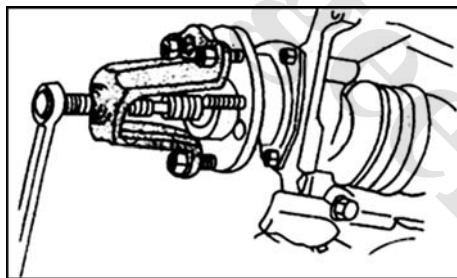

Fig. 2-10
5) As shown in Fig. 2-10, connect the removal tools of hub center shaft to the separating drive shaft on the wheel bearing/wheel hub and the wheel bearing by 3 wheel nuts.